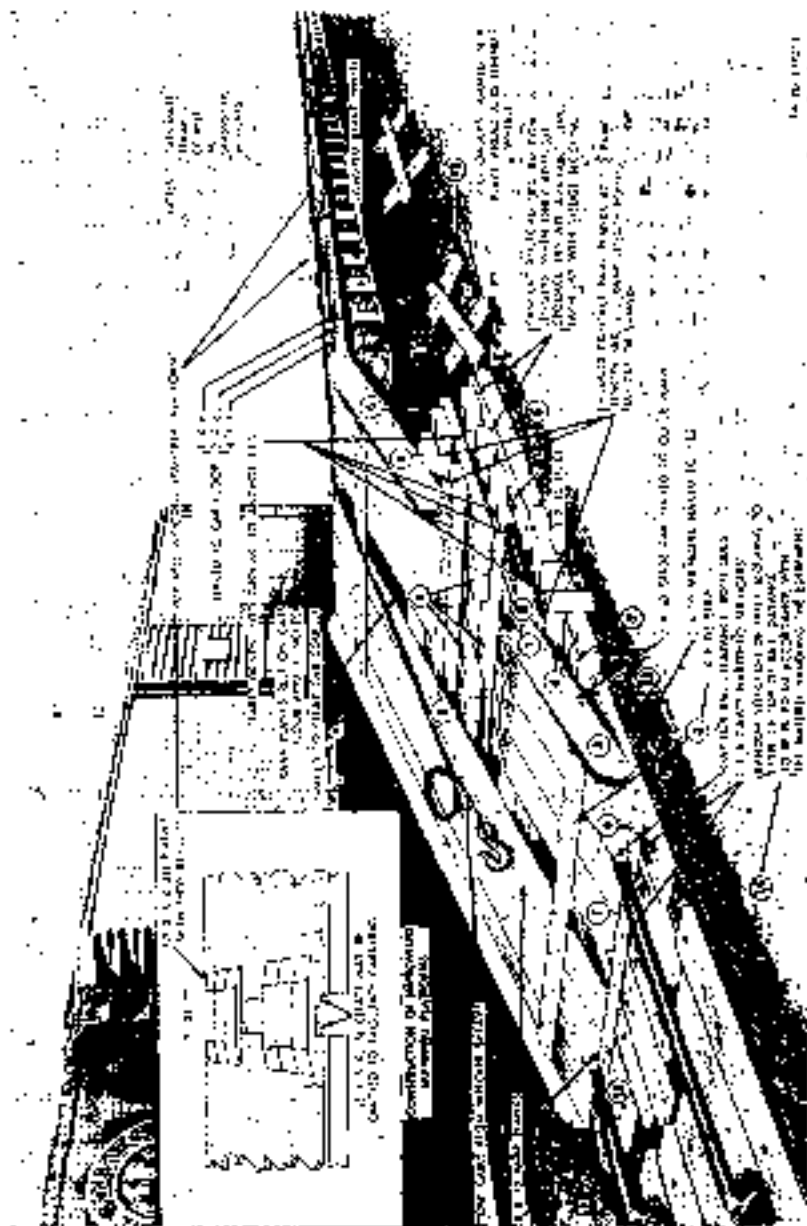

Figure 111. Construction of temporary loading ramp and spanning platform.
(b) When unboxed vehicles must be loaded from ground level, a ramp may be improvised (4) below) by borrowing railroad ties normally found stacked in railroad yards and by procuring necessary planking. An end ramp is shown in place in figure 111.
- (e) After the first vehicle is loaded on the flatcar, additional vehicles may be similarly hoisted aboard by passing the towing cable beneath the loaded vehicle. When a train of flatcars is being loaded, steel or wooden spanning platforms or bridges are used to cover the gaps between cars. Flatcar brake wheels must first be lowered to floor level to permit passage. A pair of improvised spanning platforms is shown in place in figure 111. These spanning platforms are moved along the train by hand as the vehicle advances.
(2) Gondola car loading.
- (b) Drop-end gondola cars may be loaded exactly as described for flatcars ((1) above). Height of fixed sides is immaterial. Vehicles may progress through a gondola car by passing over the two inwardly-dropped ends and over spanning platforms. Vehicles selected to remain in a gondola car are first moved to the *closed* end of the car, then spread out for blocking after the remaining end is closed and latched.
- (a) A ramp for end-loading of vehicles on open-top freight cars may be improvised when no permanent ramps or hoisting facilities are available. A ramp suitable for the loading of most ordnance items is shown in figures 111 and 112. For loading the 4- to 6-ton 4x4 tractor truck, the width of the ramp may be reduced to two double-plank runways, each cleated together. Length of planking must be determined with consideration to underchassis clearance, in order to clear the hump at upper end of ramp.